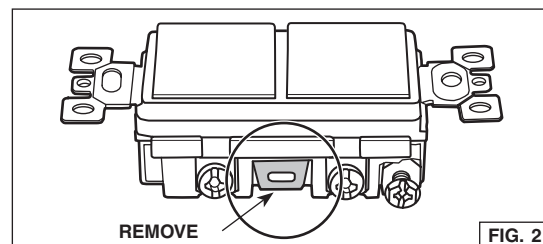

FIG. 2
1. Unpack the wall switches from the box. Using pliers, remove the small tab on the double rocker switch (circled in FIG. 2).